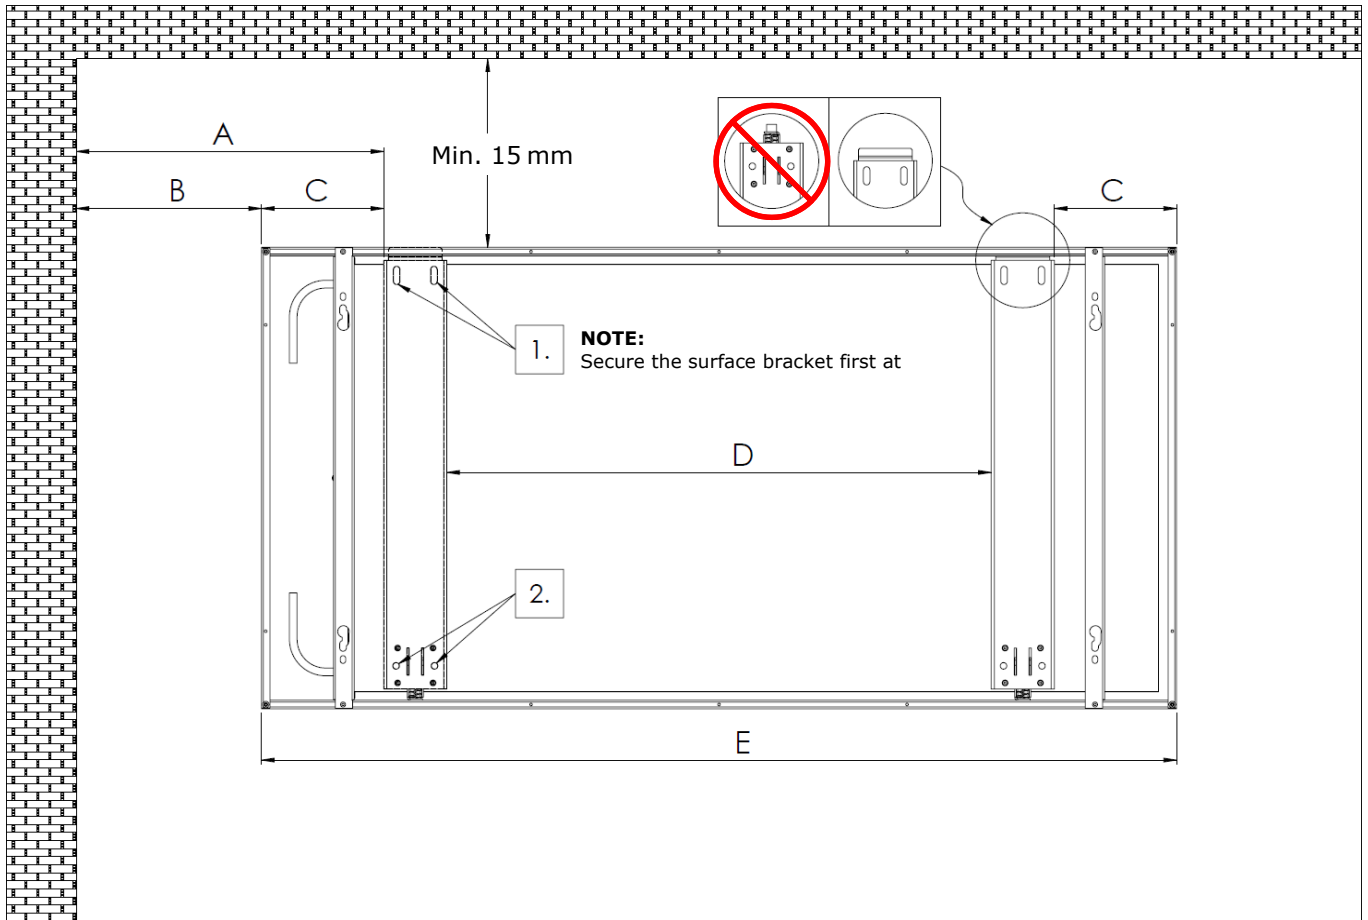

Figure 2: Dimensional drawing of ItuGraf surface bracket installation
1. Measure the positions of the brackets (2 per panel) according to Figure 2 and screw them to the ceiling. When installing a panel next to a wall or window, install the bracket so that the side with the spring faces away from the wall/window. The minimum distance between a bracket and wall should be 15 mm.